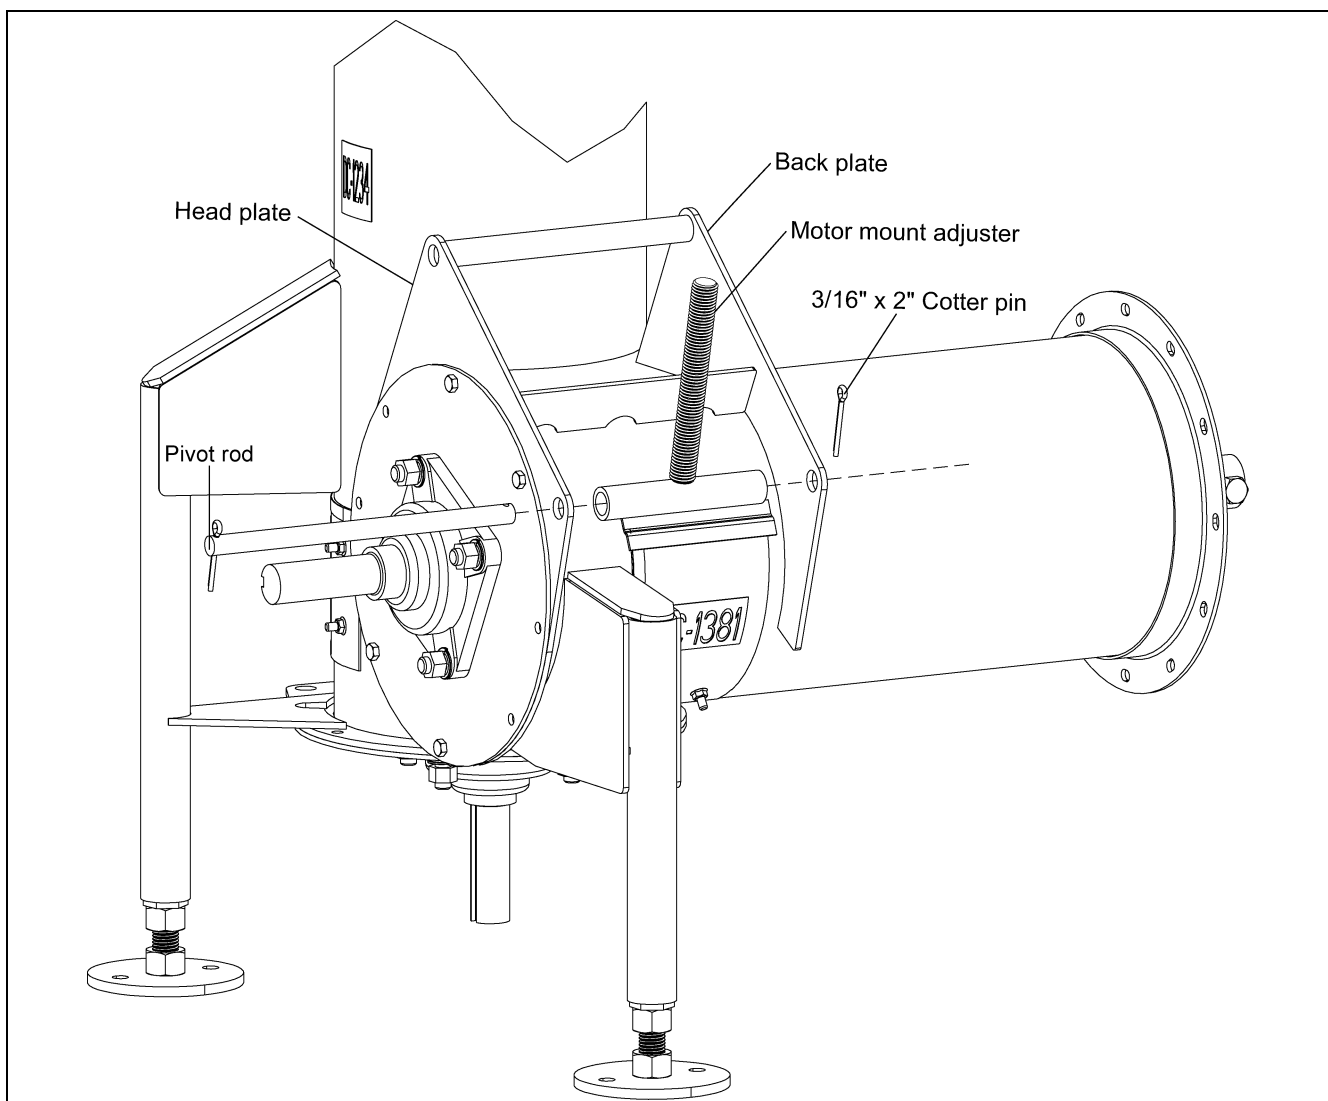
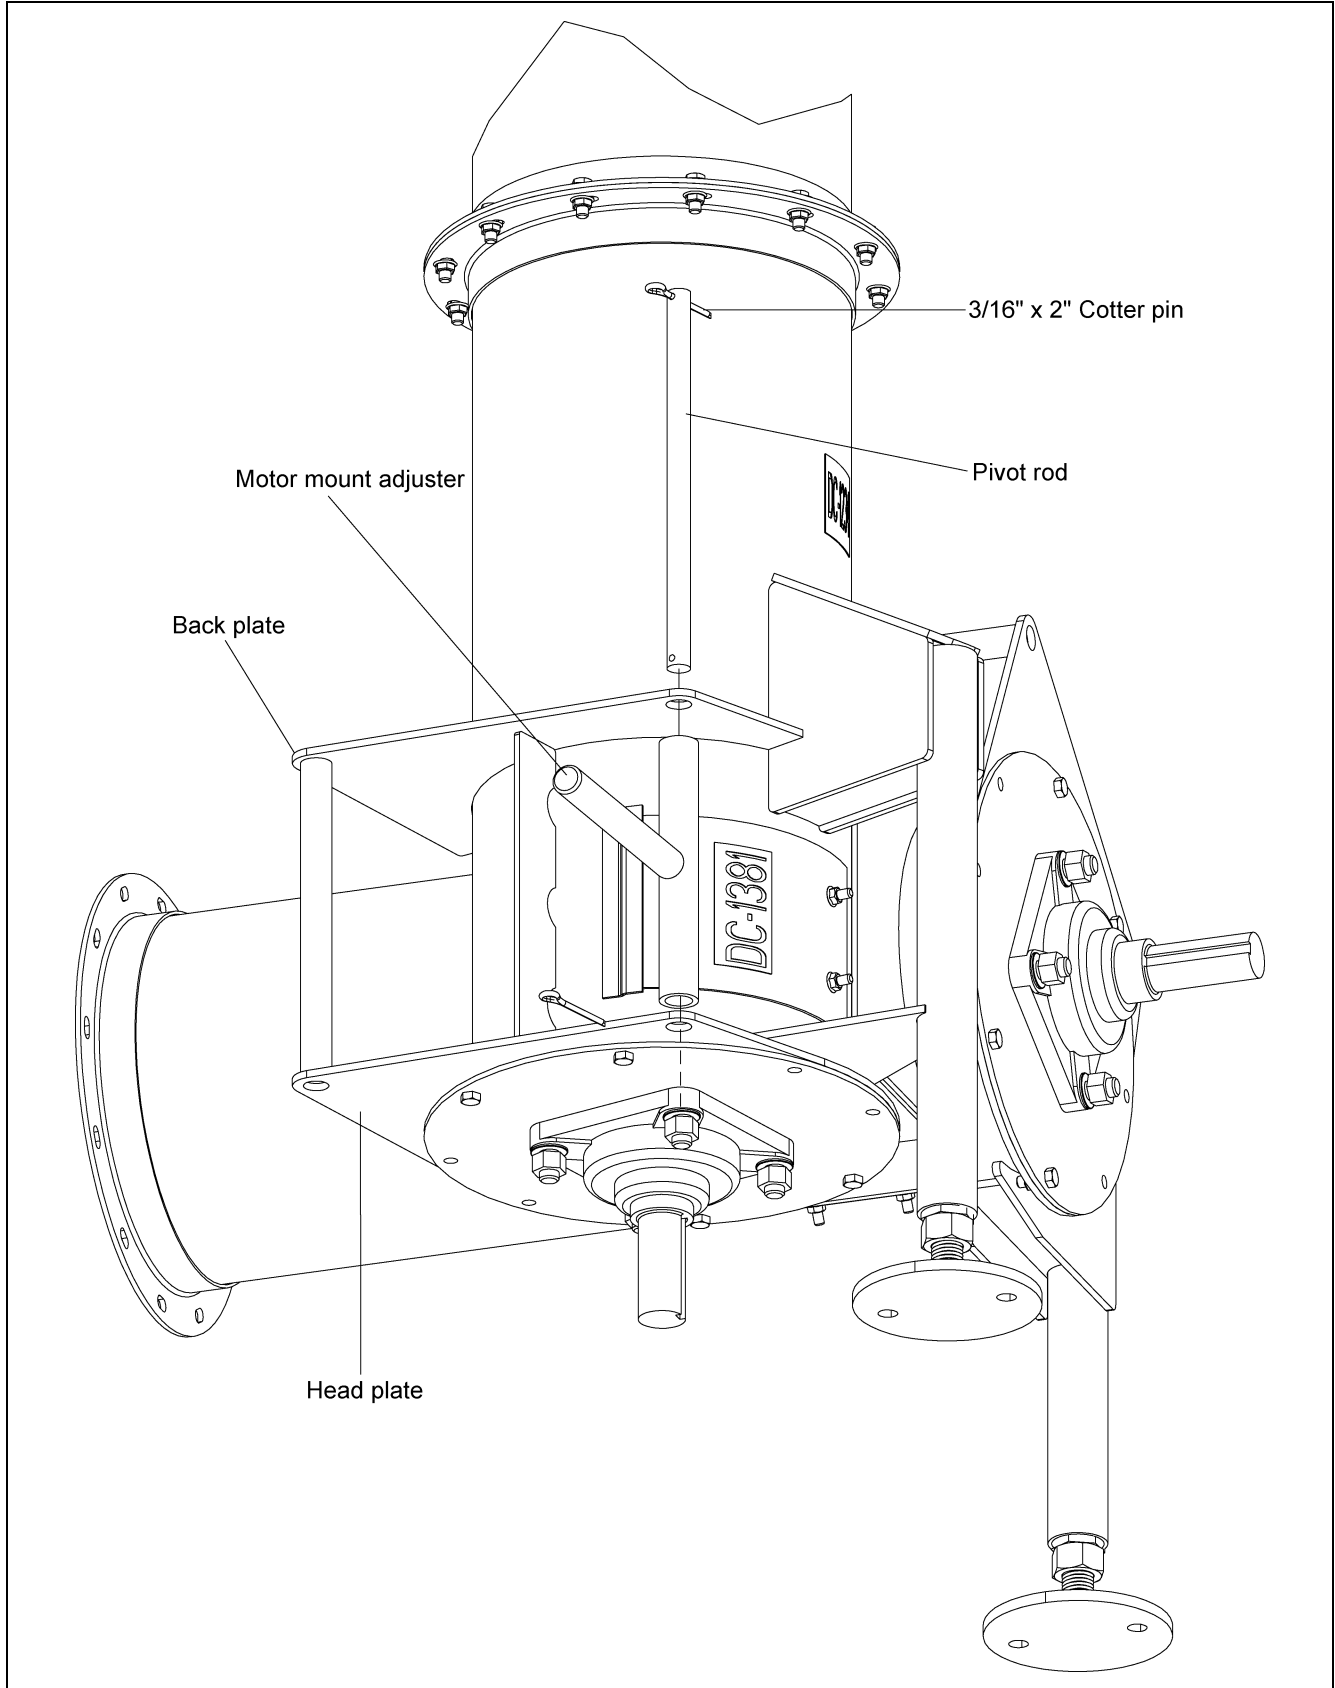

Figure 3E
Figure 3F
- B. Insert the *pivot rod* through the back and head plates and the *motor mount adjuster*. Secure the *pivot rod* in place with two (2) 3/16" x 2" cotter pins. (See Figure 3E below and Figure 3F on Page 14.)